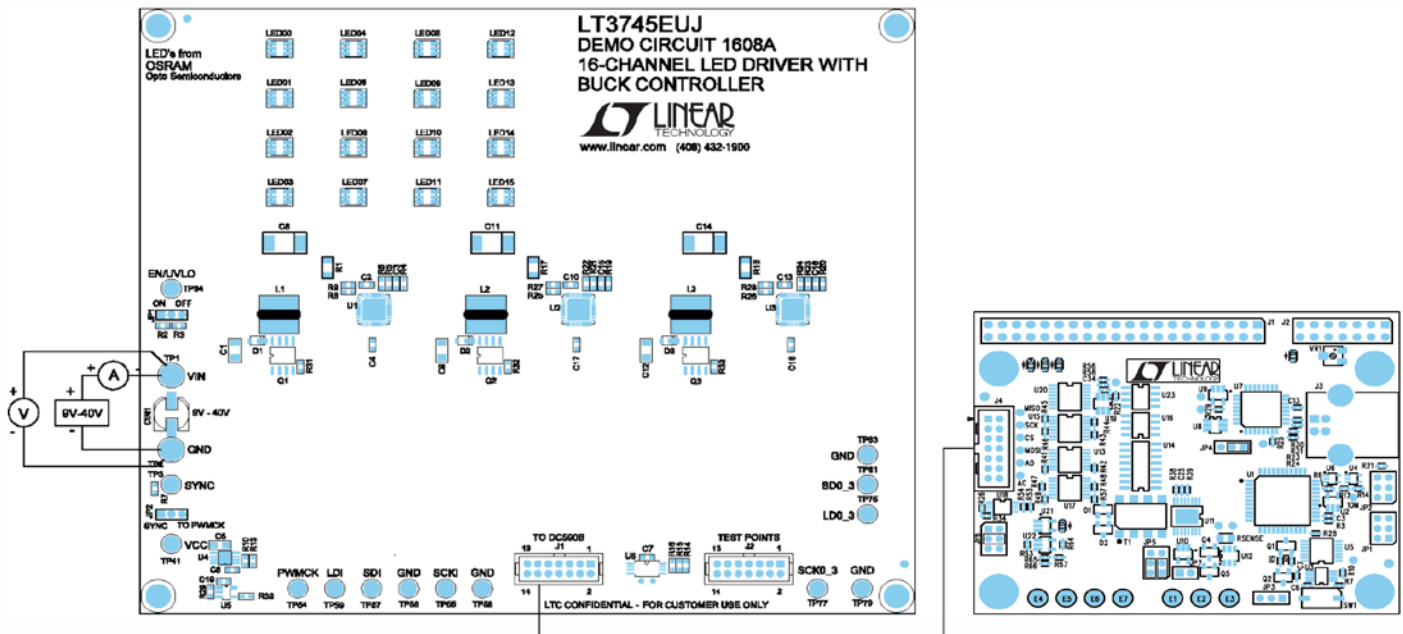

Figure 1. Proper Measurement Equipment Setup
Demonstration circuit 1608A is easy to set up to evaluate the performance of the LT3745. Refer to Figure 1 for proper measurement equipment setup and follow the procedure below:
5. Connect the demo board to DC590B as shown in Figure 1.